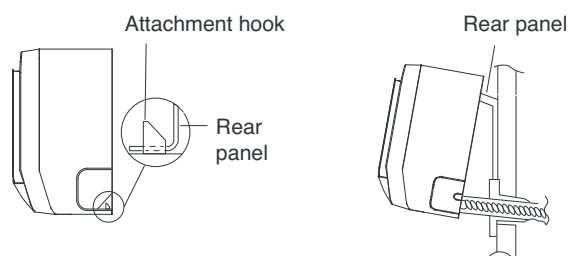

Fig. 22
- (3) Hang the mounting slots of the indoor unit on the upper tabs of the rear panel and check that it is securely seated on the rear panel. (Fig. 22)
- (4) Carefully bend the tubing (if necessary) to run along the wall in the direction of the outdoor unit and then tape as far as the fittings.